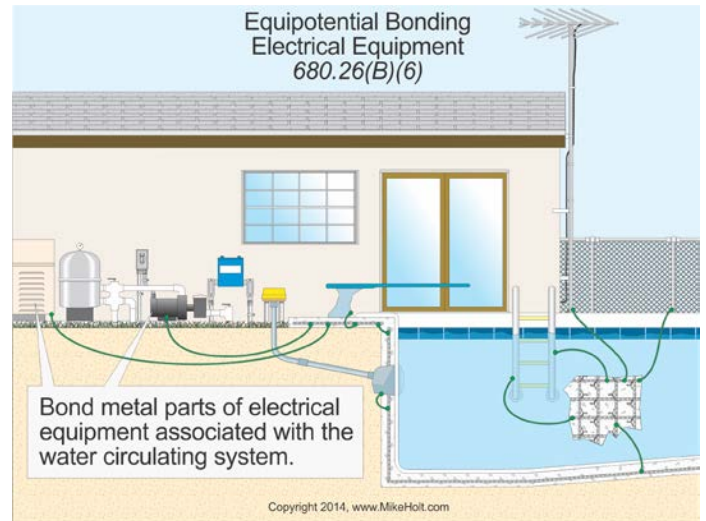

Figure 680-45
(6) Electrical Equipment. Metal parts of electrical equipment associated with the pool water circulating system, such as water heaters, pump motors, and metal parts of pool covers must be bonded to the equipotential grid. Figure 680-45